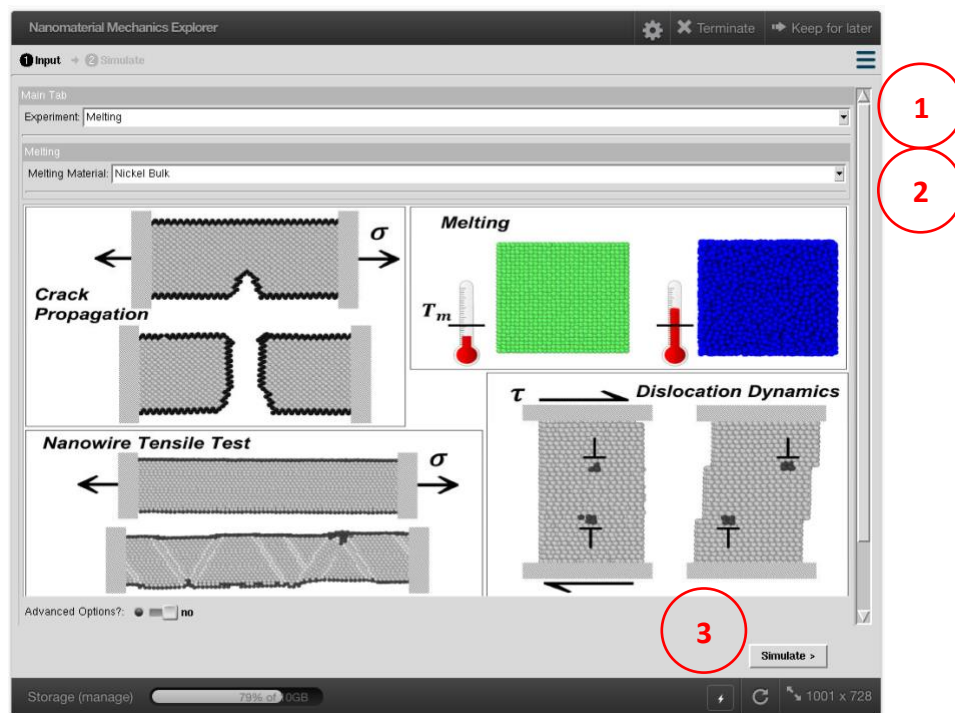

Figure 1: Simulation tool front page.
3. Click the “Launch tool”. You should see the tool as shown in Figure 1.
1. As shown in Figure 1, select “Melting” from the “Experiment” dropdown